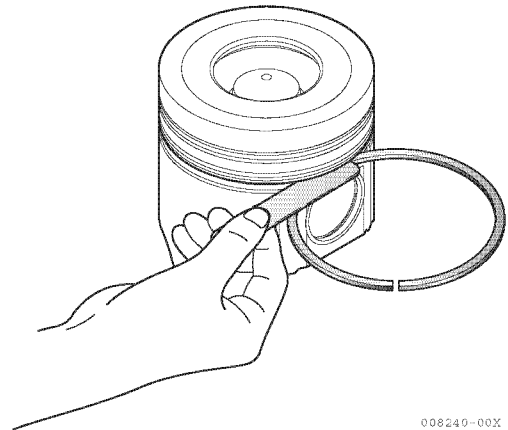

Figure 5-90
- Measure the thickness and width of the rings, and the ring-to-groove clearance after installation. Replace if wear exceeds the limit (**Figure 5-90**).